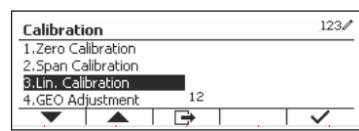

Figure 20
8. Exit Linearity Calibration by pressing the softkey corresponding to the ✓ icon. (See Figure 20)